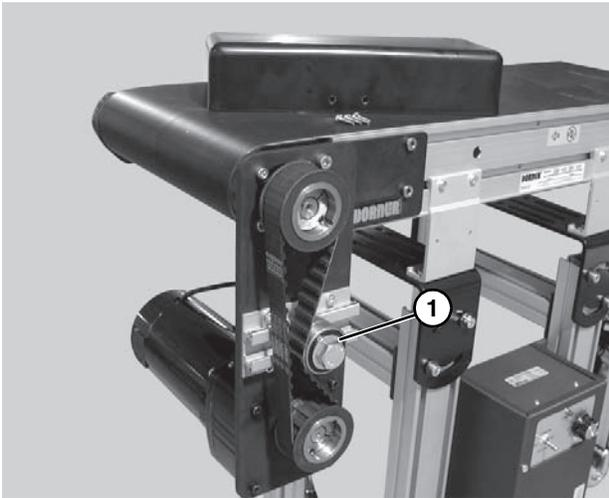

Figure 10
2. Loosen tensioner (**Figure 10, item 1**).